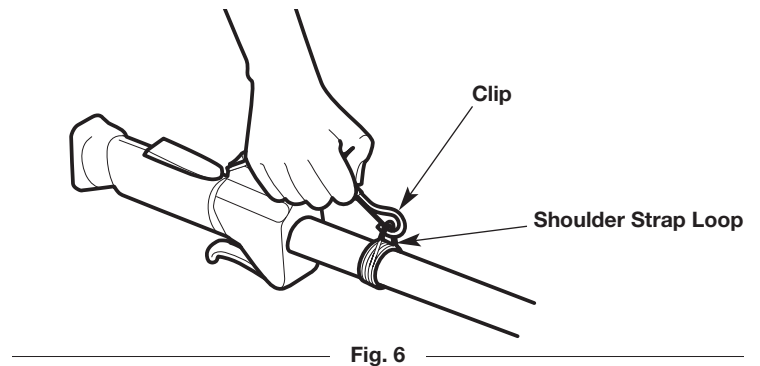

Fig. 6
3. Snap the clip onto the shoulder strap loop (Fig. 6).